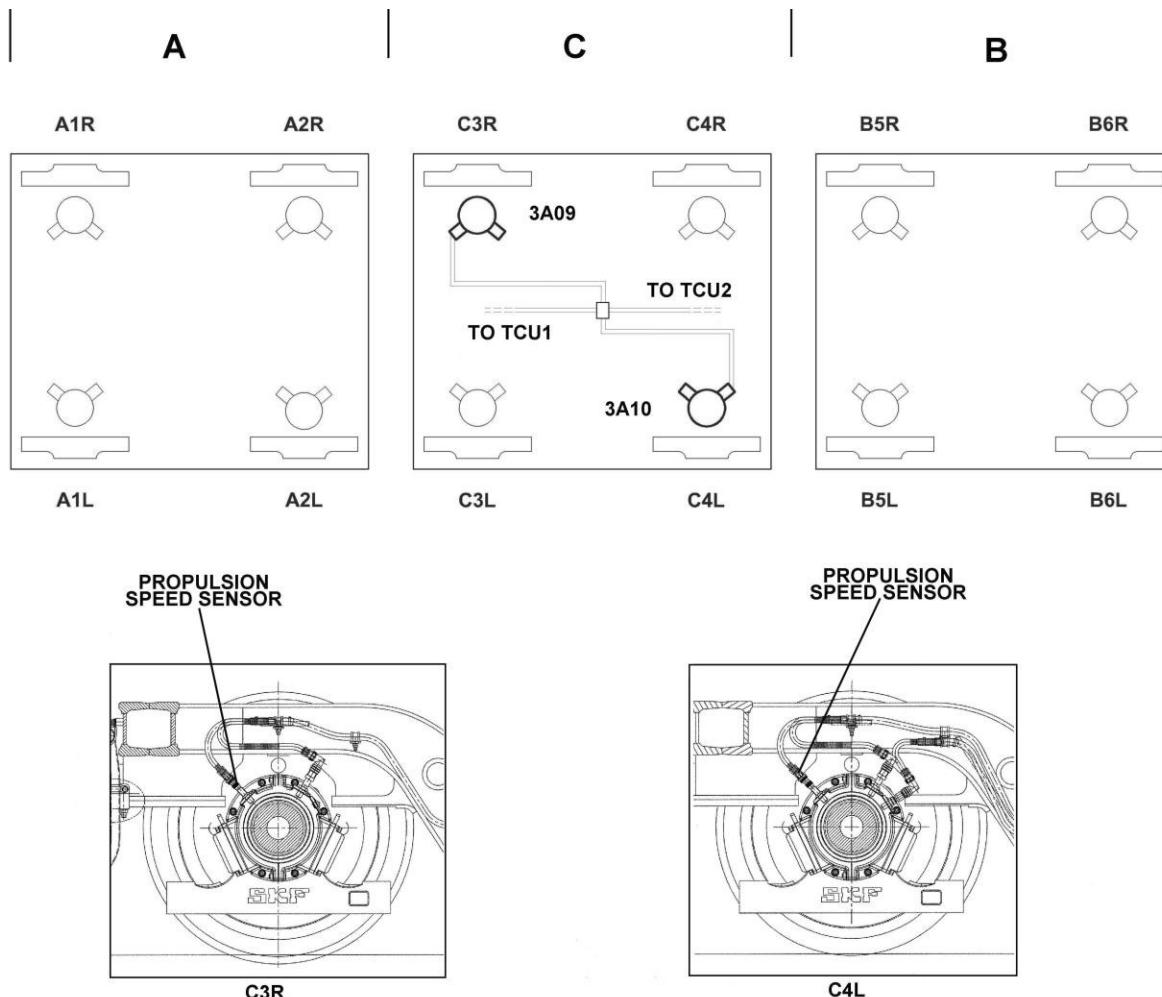

Figure 1 - PROPULSION SPEED SENSORS LOCATION
1. Locate the Propulsion Speed Sensor Device to be inspected (see Fig 1).